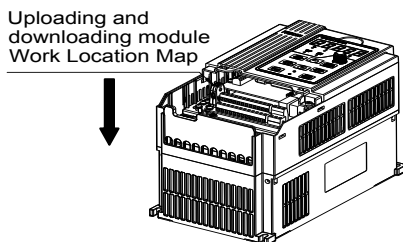

**Figure B-1 Uploading and downloading module structure diagram**
Uploading and downloading module structure diagram shown in figure B-1:
Step 1: Installing the upload and download module in the inverter control board UP / DOWNLOAD location (As shown in figure B-1) .